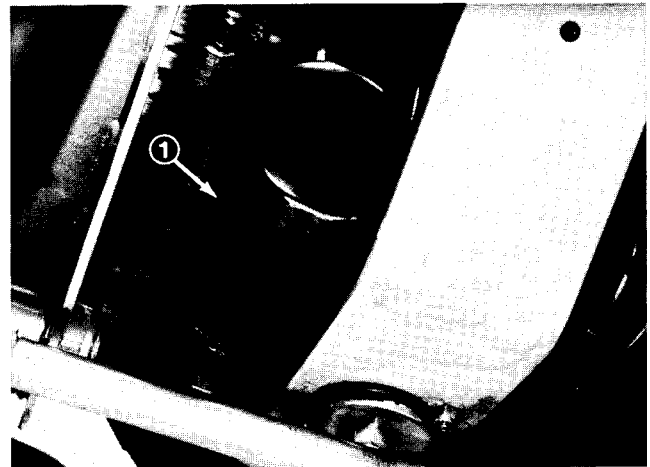

Figure 8
4. Remove the oil drain plug and let the oil flow into the drain pan. Remove and discard the oil filter (Fig. 8).